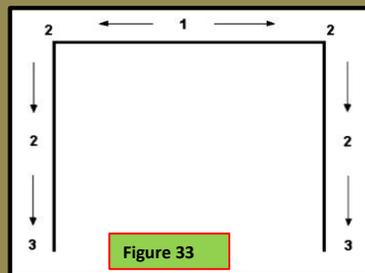

Figure 33
8. Install the new upper door seal (P/N 01939571) in accordance with Figure 33. First, press in the middle of the door seal into the groove below the locking plate, Figure 33, Position 1.
9. Then press the seal into the corners, Figure 33, Position 2. The seal lip should point inwards.
10. Then, working towards the middle, evenly press the seal into the groove, Figure 33, Position 3. When centered properly, both ends will line up with the door; see Figure 34.